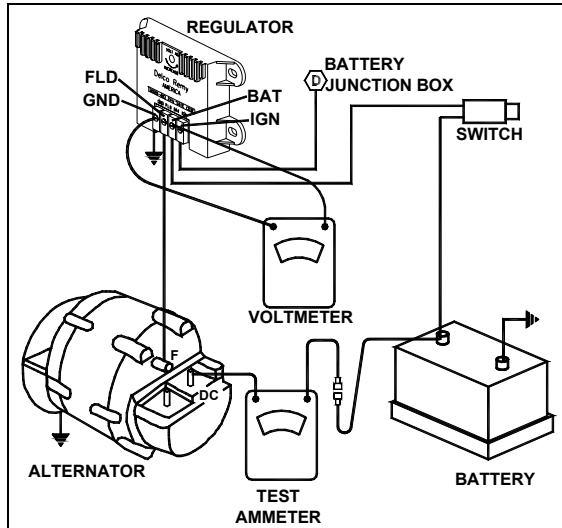

FIGURE 29: REGULATOR VOLTAGE TEST 06078
1. To check the voltage setting, connect a voltmeter across the "POS" and "NEG" terminals on the regulator, and an ammeter to the "C" terminal on the alternator. Refer to figure 29.